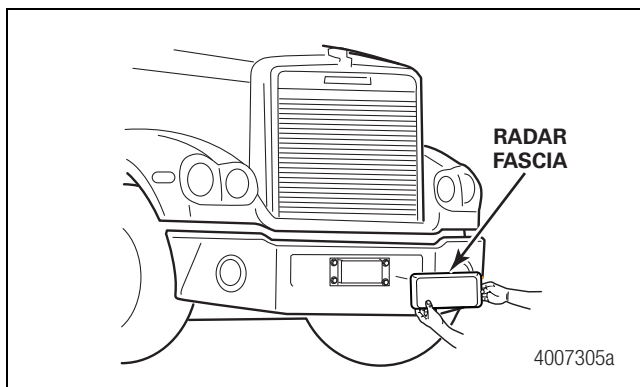

Figure 3.1
3. Remove the three fascia mounting hardware and remove the fascia from the radar sensor. Figure 3.1.
10. Replace the fascia using the fasteners and washers that were removed or recommended hardware per OEM requirements. Dry tighten the bolts to OEM specifications. Figure 3.1. **ⓘ**